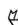

Fig. 53: Insert process connection (inlet)
4. Insert the process connection (inlet) into the device body (inlet) (Fig. 53)